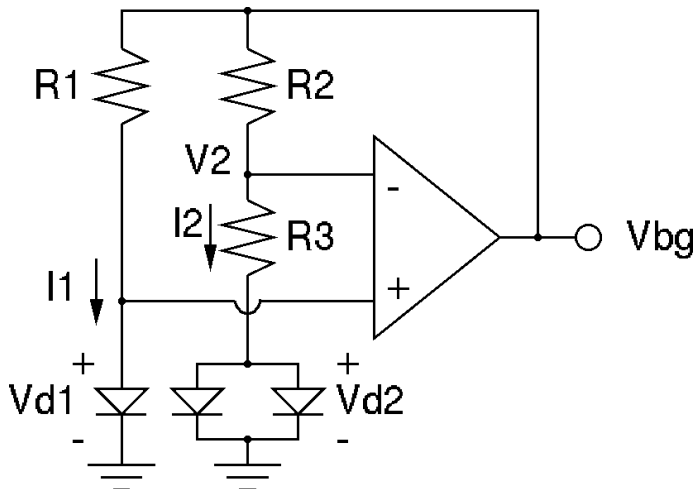

Figure 1: Proposed band-gap reference circuit based on thermal characteristics of a PN junction.
1. Use equation (2) to find approximate values for the temperature coefficients of the PN junction voltage in Silicon and Germanium at  $T=300\text{K}$ . To obtain reasonable numerical values, assume junction voltages of  $V_d(\text{Si}) \approx 0.65\text{V}$  and  $V_d(\text{Ge}) \approx 0.3\text{V}$ , respectively.
2. By how much do you have to amplify the positive temperature gradient of the thermal voltage in order to perfectly balance it with the negative voltage coefficient of the silicon PN junction as described by equation (2)? Assume  $T=300\text{K}$  and  $V_d \approx 0.65\text{V}$ .
3. Consider the circuit depicted in figure 1 and express its output voltage  $V_{bg}$  as a function of  $R_1$ ,  $R_2$ ,  $R_3$  and the diode voltage  $V_{d1}$ . To simplify the analysis, we assume the op-amp to be ideal, i.e., it features infinite input impedance and infinite (differential) gain. The latter implies that  $V_2=V_{d1}$ .
4. Simulate the circuit depicted in figure 1 with PSpice for  $R_1=R_2=680\Omega$  and your estimated value for  $R_3$  (cf. tasks 1 & 3). Use 1N916 diode model parameters or the best available match. Sweep the temperature in your simulation over a range of 50C (e.g. 20C – 70C) and adjust  $R_3$  such that the output voltage  $V_{bg}$  (approximately) remains constant (at what level?). Plot  $V_{d1}$  and  $V_{bg}$  over the 50C temperature excursion.
6. Realize the circuit in figure 1 on your Protoboard using 1N916 silicon diodes. Arrange your elements so that the resistors and the LF356 op-amp reside on a board outside the oven while **only the 3 diodes** are placed inside the heat chamber. Use +/-5V for the op-amp supply. Your initial element values should match the values used in your PSpice simulations. Adjust  $R_3$  as necessary to obtain the proper reference voltage. Does the output voltage  $V_{bg}$  change if you increase the op-amp supply to +/-7.5V?